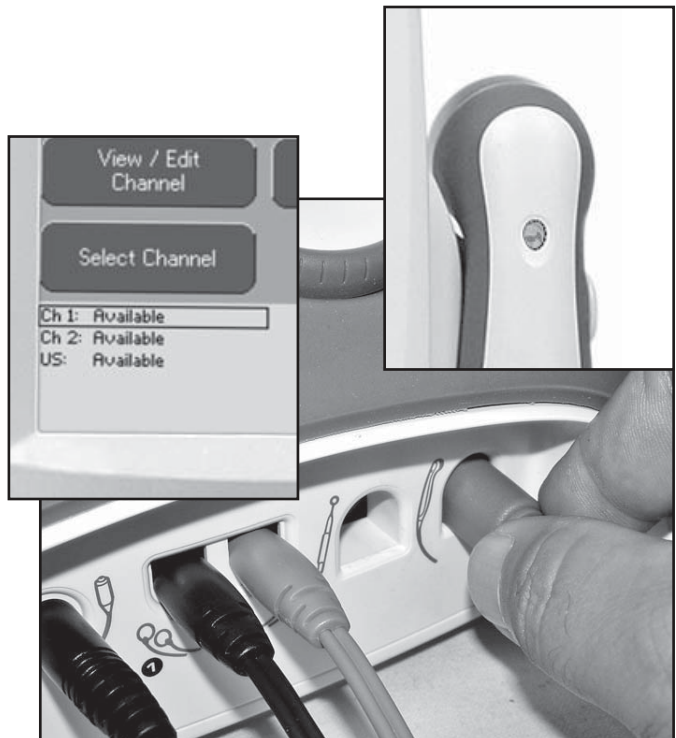

FIGURE 5.19
3. Plug the Ultrasound Applicator into Applicator connector. **See Figure 5.19.** Watch Applicator LED while connecting to System. The LED should flash Green five times.
4. Look at the “Ultrasound” channel icon. It should read Available. **See Figure 5.19.**